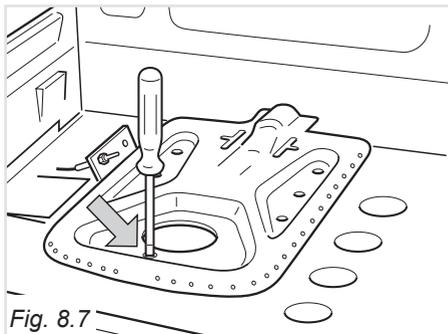

Fig. 8.7
- Remove the burner securing screw (fig. 8.7)